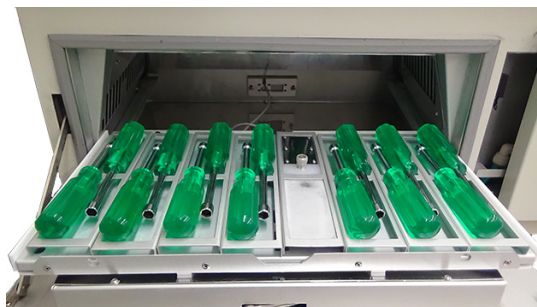

Figure 10.3d: Three-Dimensional Specimens Mounted in Specimen Holders
- Whenever possible, specimens should be mounted in a specimen holder. If this is not possible specimens may be mounted directly on the tray. (Figure 10.3d).